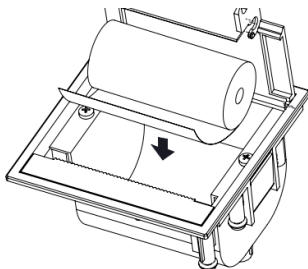

Figure 5-4
1. Place the paper roll in the printer bin slot (Figure 5-4).